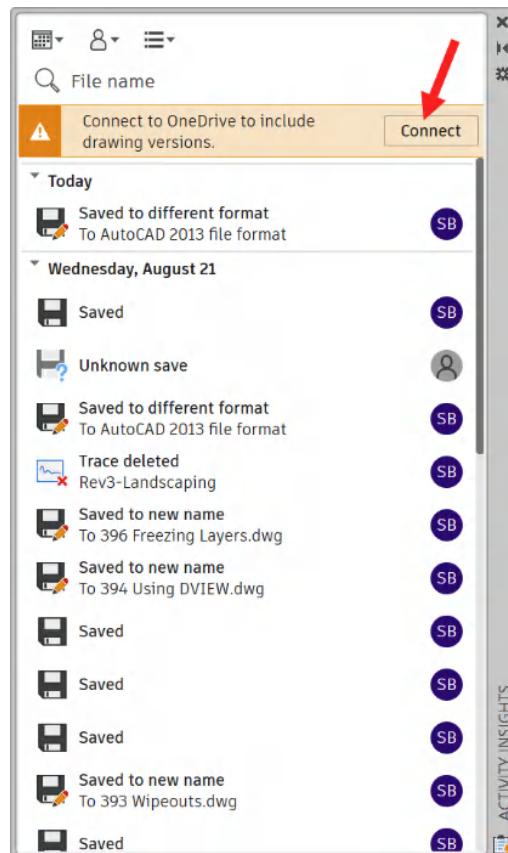

Figure 15.8: The Activity Insights palette for the cloud-based DWG file
4. Repeat *steps 2 and 3* with the other file tab (the cloud-based DWG file), and you will see that the **Activity Insights** palette displays slightly different information for the cloud-based DWG file, as shown in *Figure 15.8*. It also gives you the option to connect to **OneDrive** (arrowed).